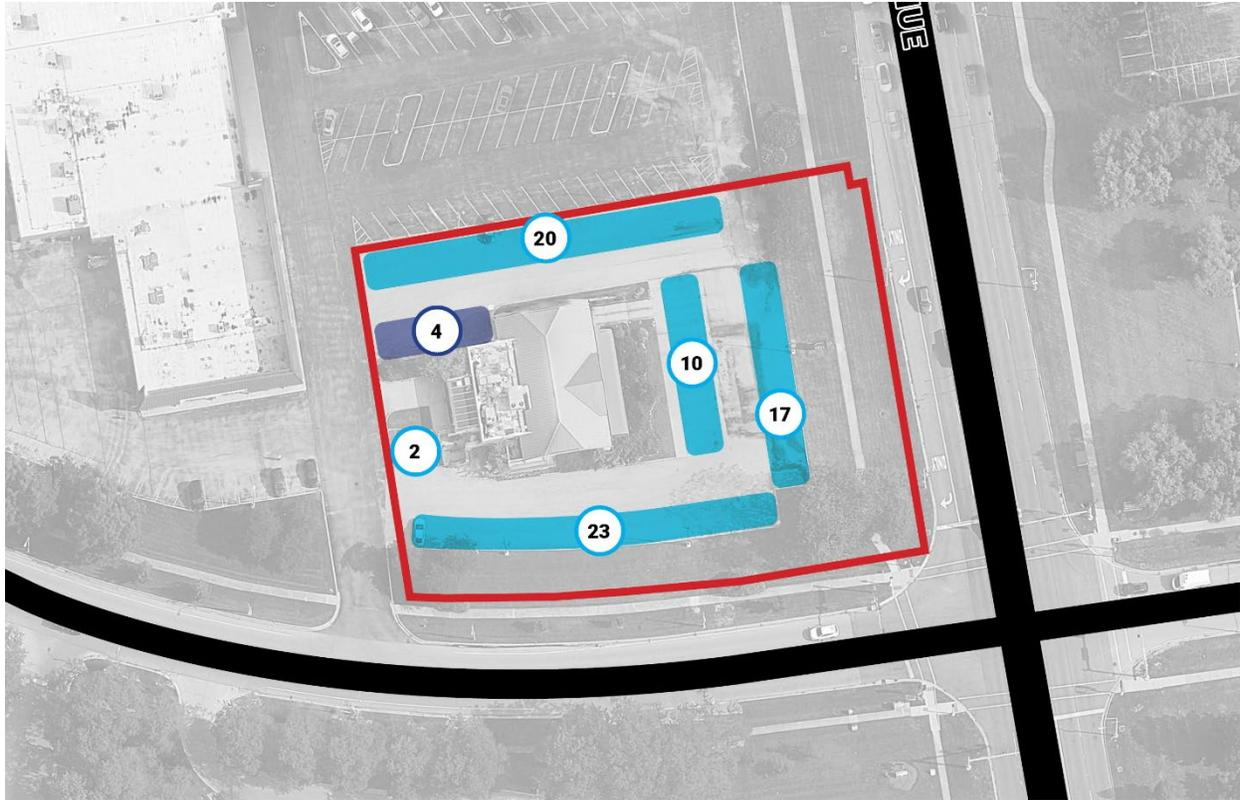

Figure 8 – Site Parking Plan
The are 76 parking spaces available for use by the proposed use including four (4) handicap-accessible parking spaces. See Figure 8 – Site Parking Plan